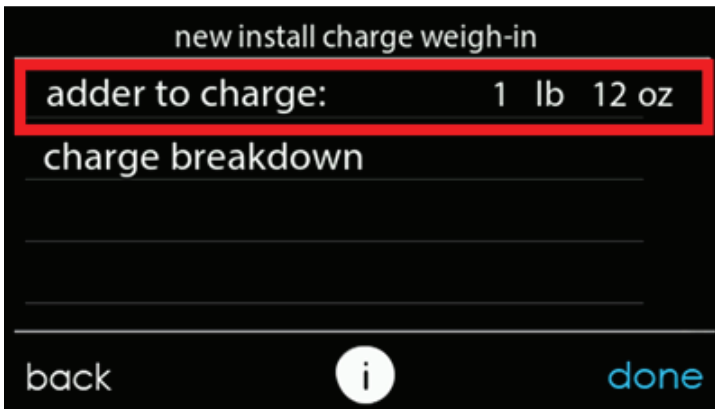
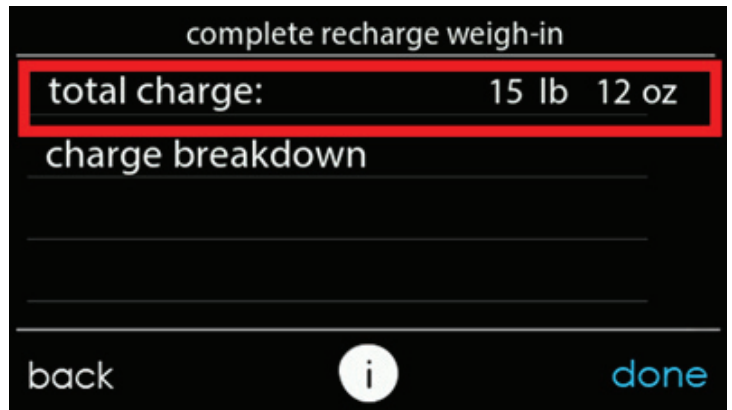

Fig. 19 – Additional Required Charge for New Installation
Fig. 20 – Total Charge Required for a Complete Charge
13. The "new install charge weigh-in" screen will show the additional charge that needs to be added to the system to account for the ID coil and line set (see Fig. 19).
14. If this is a complete re-charge then select "complete recharge" in the "charging mode selection" screen. This screen will show the total amount of charge to add for the indoor coil, line set, and outdoor unit (see Fig. 20). The "charge breakdown" screen shows the charge required for each component of the system.
In heating mode, the required charging method is by weigh-in. On new installation or complete recharge, refer to the refrigerant charging screen in the user interface (UI) to obtain the required charge adjustment and/or total charge required (see Fig. 19 & Fig. 20). Use the UI and Heating Check Charts (located on the inside of the control box cover) to check system operation during HEATING mode. The indoor conditions must be between 60°F (15.6°C) and 80°F (26.7°C) to check the charge. The outdoor coil must be dry and ice/frost free. Do not check for pressure agreement if the outdoor has rain, mist or snow present.